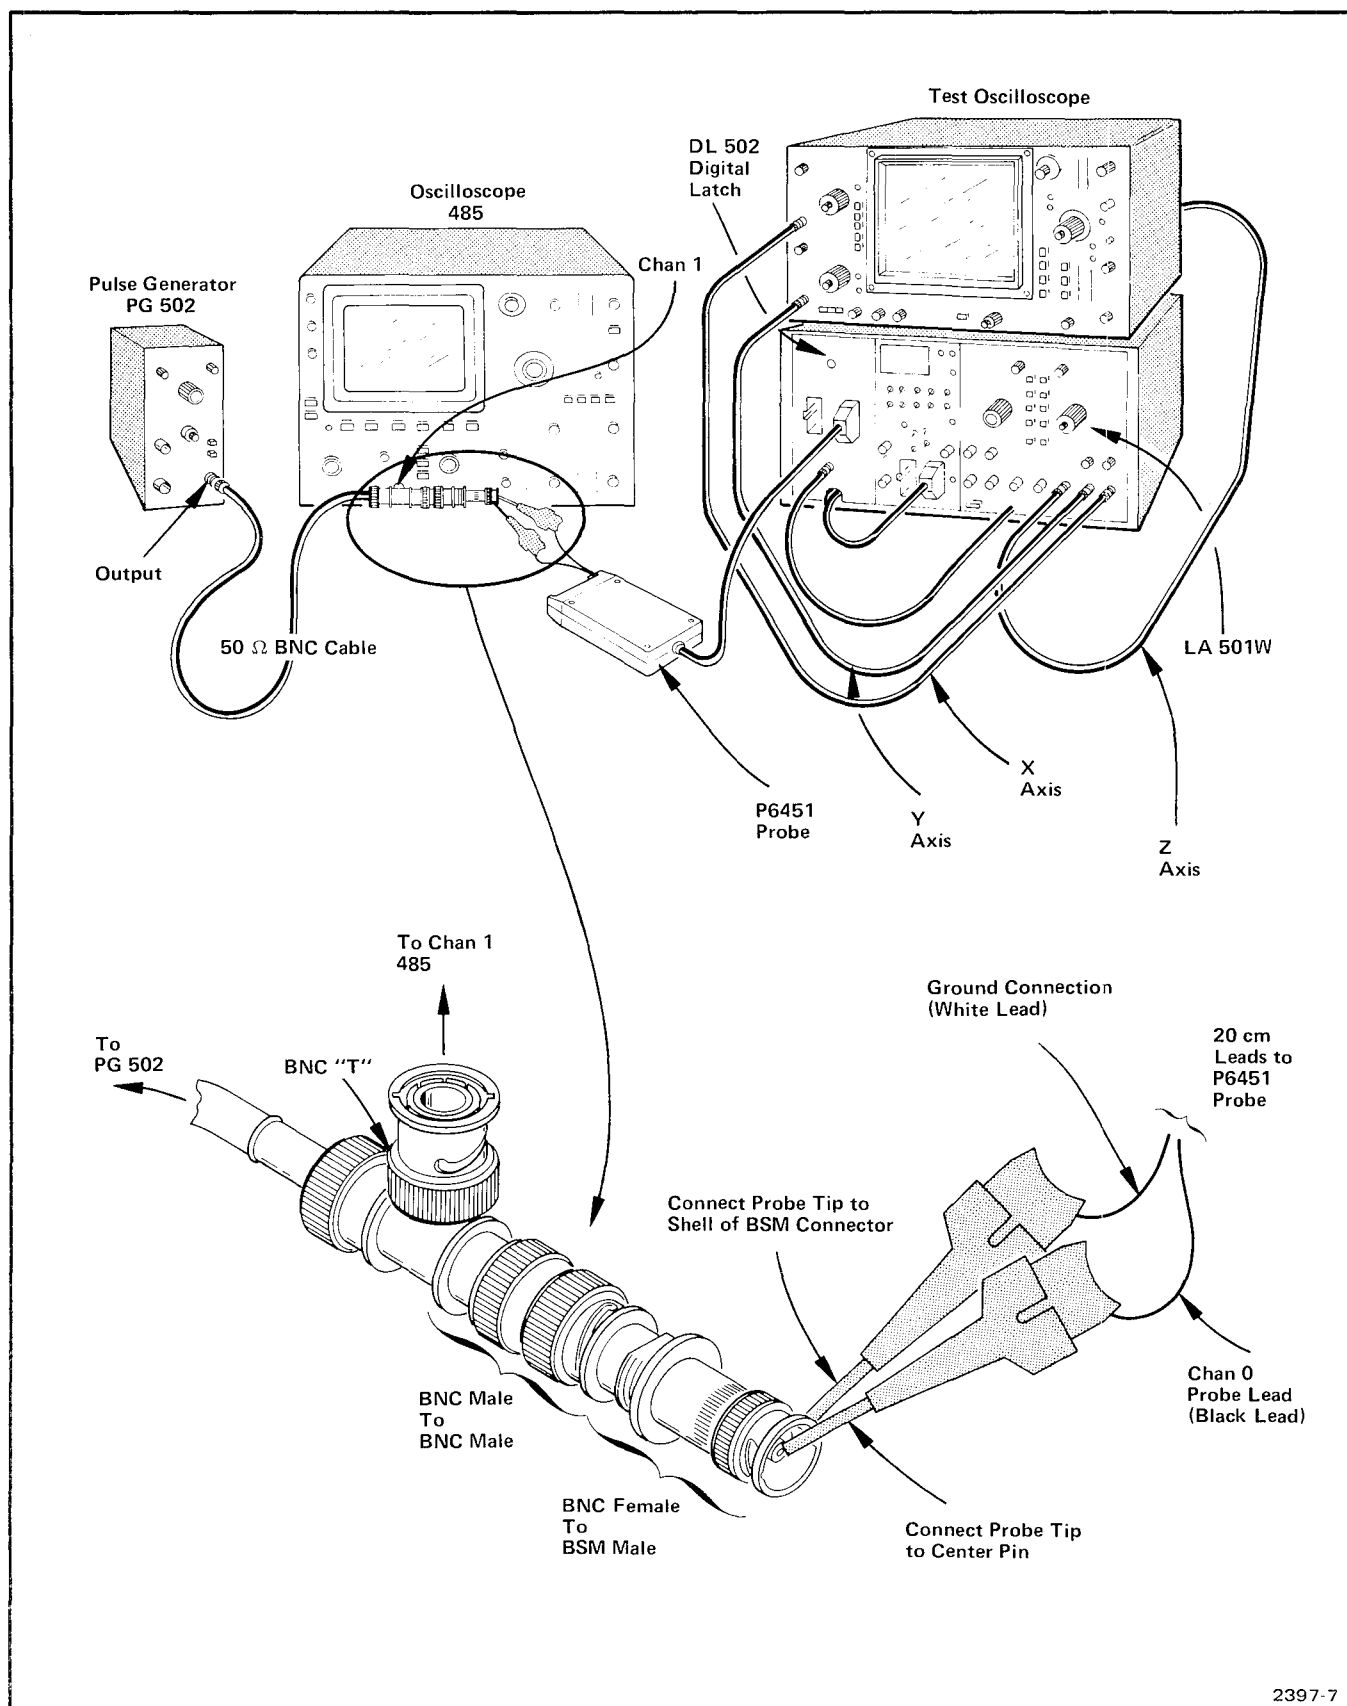

Fig. 3-5. DL 502 Digital Latch operational test setup for LA 501W operation.
If the DL 502 is used with the LA 501W, preliminary and operational check procedures 2, 3, 4, 5, and 6 (shown below) should be followed. Refer to Fig. 3-5 for the test set-up.
a. Install the DL 502 and LA 501W in the TM 500 mainframe. Refer to Fig. 3-5.
e. Connect remaining instruments in accordance with Fig. 3-5.